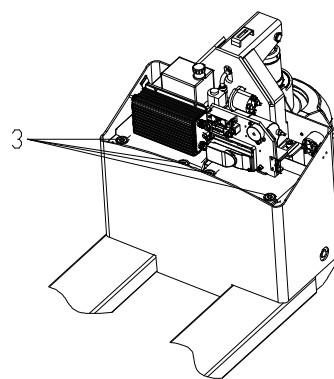

Fig 7
- (Fig 7) remove battery wire3;